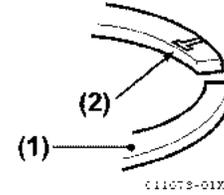

Figure 5-92
- Install the rings with the manufacturer's mark facing up (Figure 5-92).